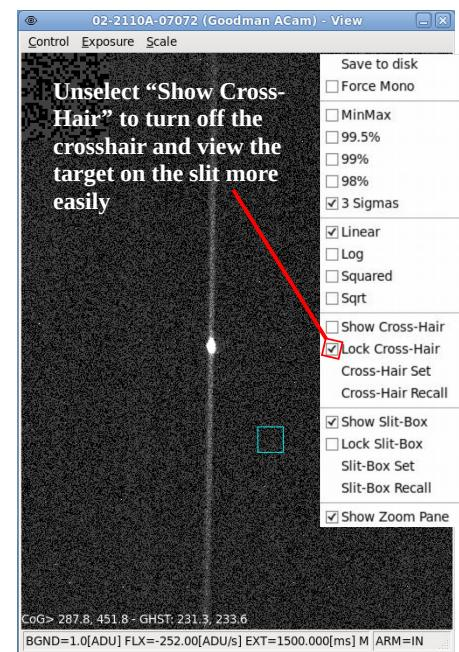

Figure 8: Target centered on the slit.
Clicking on your target will place the blue box on it as shown in Figure 7, right; as opposed to the crosshair, which will be at the exact mouse position, the cyan Slit-Box uses a centroiding algorithm to determine the position of the target. The centroid coordinates are shown in the lower left corner of the GACAM viewing window (Fig. 8), first in GACAM coordinates, then in Goodman HST coordinates.
2. Now bring up the **Control** menu, and select the **Offsets** option (Fig. 7, left). You will see the **Offsets** sub-window as shown. Click on the **Compute** button. The fields will display the Instrument Position Angle (IPA), and the calculated offsets (in arcsec) in the E-W and N-S directions, between the current (locked) position of the crosshair (which is the reference) and the centroid of the cyan Slit-box. Click on the **Apply** button to send these offsets to the telescope Control System (TCS). Advise the Telescope Operator so he keeps track of the guide star when the offset is applied. You will see the target move and end up centered on the crosshair, as shown in Figure 7, right. You can more easily double check your object is correctly centered on the slit by removing the crosshair, as shown in Figure 8 (unselect the **Show Cross-Hair** option in the pop-up menu).